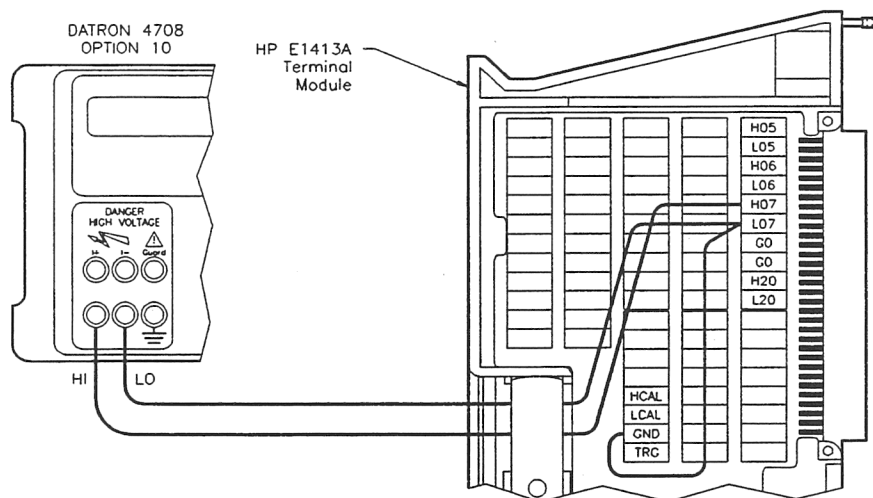

Figure 2-1. A/D Overrange Detection Connections
- Set up the equipment as shown in Figure 2-1 (Connections are shown to channel 07. You can connect inputs to any channel.)